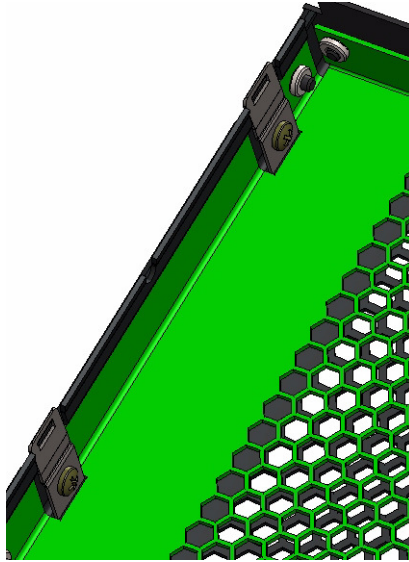

Figure 4-12 Front Bezel Grille Attach Tabs
5. Once all the wires have been successfully connected, swing the grille shut such that it can be snapped into place on the front of the chassis using the attached tabs (Figure 4-12). Push firmly but gently to attach the front grille.